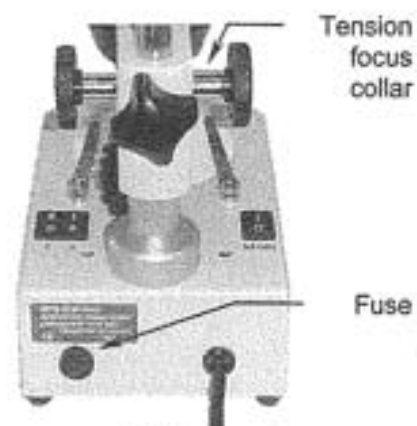

Fig. 5
- a. With a flat screwdriver, press lightly on the slot of the fuse cap (Fig. 5) and turn 1/4 turn as indicated by the arrow.
The tension adjustment collar for focussing (Fig.5) is situated between the focussing knob (13) and the head holder (11).